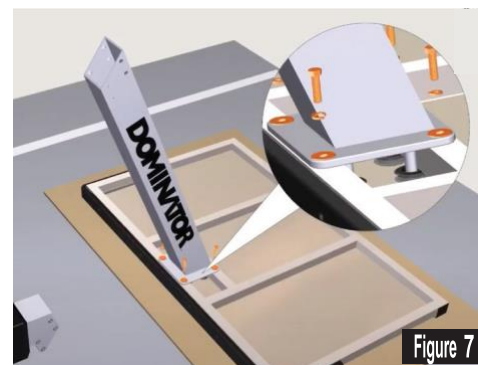

Figure 7
- Measure the distance from the edge of the bolt plate to the edge of the frame to ensure it is in correct position. See Figure 7.
- Align the Extension Arm with the Backboard and secure the hardware in the same order. See Figure 7.